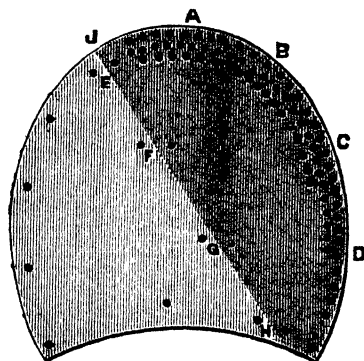
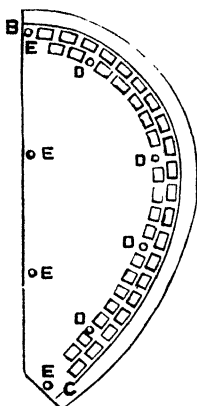
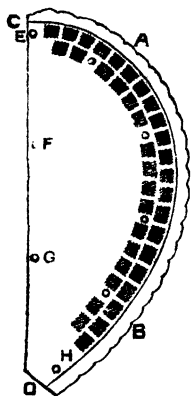
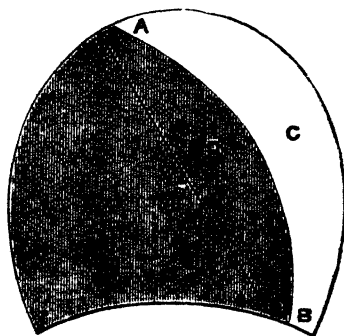

Fig. 2.—New Half Heel with Rivets to Resist Wear.
Fig. 3.—Half-Heel Piece Holed and Hammered.
Fig. 8.—Half-Heel Piece Bradded.
Fig. 10.—Heel Prepared for Half-tip.
half of it, which can be replaced with any corner of hard sole leather that would be almost useless for any other purpose. To remove half of the top-piece, cut it across at B C, and should the lift be worn, saw or cut that through as well at D E; tack a piece of leather on to take the place of the worn piece of lift, putting the tacks in at F and F. Then trim it round, and put some odd corner of hard sole leather on in like manner, to take the place of the worn part of the top-piece. Trim this also, and nail it as shown in Fig. 2. In this case, four of the rivets
Before letting new heels wear away, take a piece of paper with one straight line and lay this across the heel, from J to H (Fig. 2); hold it with two fingers of the left hand quite firm at F and G; then with the right hand smooth it down over the edge from J, passing A, B, C, and D on to I; this will leave a mark on the paper. Cut out to this mark, and it will give a good pattern of a half-heel piece, as Fig. 3, without the outside line A. To this cut another pattern out of stiff cardboard, as it will very often be wanted for use.
When leisure occurs cut sole leather to pieces of this pattern, leaving  $\frac{1}{4}$  in. on all round the curved side A (Fig. 3), to give room for nailing. Here it will be necessary to explain how to make an awl for this purpose, as, unlike all other awls, such awls cannot be bought ready for use, but it is a tool that saves much time and disappointment.
The piece of leather in Fig. 3 should be of good
irregular-looking than shown in Fig. 3; but this does no harm, for so long as the awl is held in the same position for each hole, the brads are sure to follow into their proper places.
cut-bill, and it is this brad that must be used to put into the holes made in Fig. 3. Let the length of the brads be as nearly equal to the substance of the leather as possible; lay the leather upon a piece of wood, and knock the brads in the square holes one at a time. When they are all in, take the leather off the wood, and lay it on the lap-iron with the points of the brads upwards. These, if they are not too far through, can be clenched and made smooth by tapping with a hammer; but if they are through far before trying to clench them, they must be cut off with a pair of cutting tongs close to the leather.
This done, the half-heel is ready for use. Several may be prepared, and then all that is necessary to half-heel the boots is to cut the top-piece across, as shown, from J to H (Fig. 2), take away the worn part, and replace it with the new piece. Fig. 8 shows where it should be bradded, and also the places for eight  $\frac{1}{4}$  in. rivets; these are all that is necessary to hold the piece on, and will allow it be taken off easily when another heel-piece is wanted.
It will be found that the small margin,  $\Delta B$  (Fig. 8), after the brads have been put in, has become somewhat contracted. This is why the extra  $\frac{1}{4}$  in. of leather was left, for it would break if nailed close to the edge. Now
you can trim up the edge of the piece to the edge of the heel, cutting close to the brads, on the line c to d, and finish in the ordinary way. The first time the boots are half-heeled, it will be necessary to put four rivets in the old leather at e, f, g, and h (Fig. 8), to keep it from ripping off.
9), price 1d. Put one on the heel in its proper position, mark round the inside from A to B (Fig. 10), and cut away the part, c, that the tip is going to replace. Lay the tip on the lap-iron face down, and hollow it in the centre, that it may grip well at both ends, then dip it in water to soften the leather plugs, and put it on the heel. With a fine awl make a hole through the centre of each plug, and put a long rivet, which would be supplied with the tips, in each hole. Smooth it up with a file where rough, and you have a new lease of heel wear for 3d., and a very little trouble. If it is found difficult to cut the curved line to fit the tip from A and B, cut the heel straight across, as in Fig. 2, from J to H, and after the tip is on cut a small piece, as D (Fig. 10),